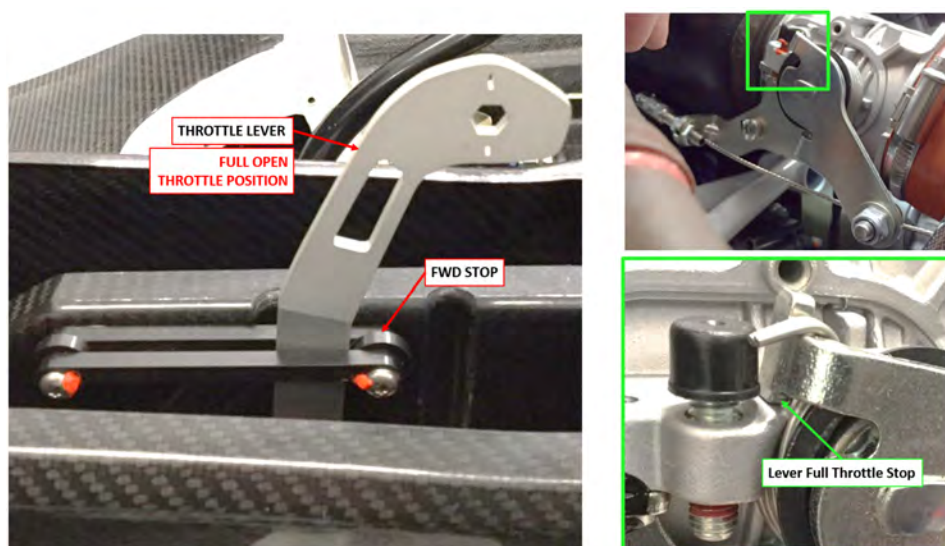

FIGURE 16-23
- In cockpit, move throttle handle to full throttle position (FWD stop). At engine, ensure the lever full throttle stop contacts the throttle body before the throttle handle contracts the FWD stop. (See Figure 16-23.)